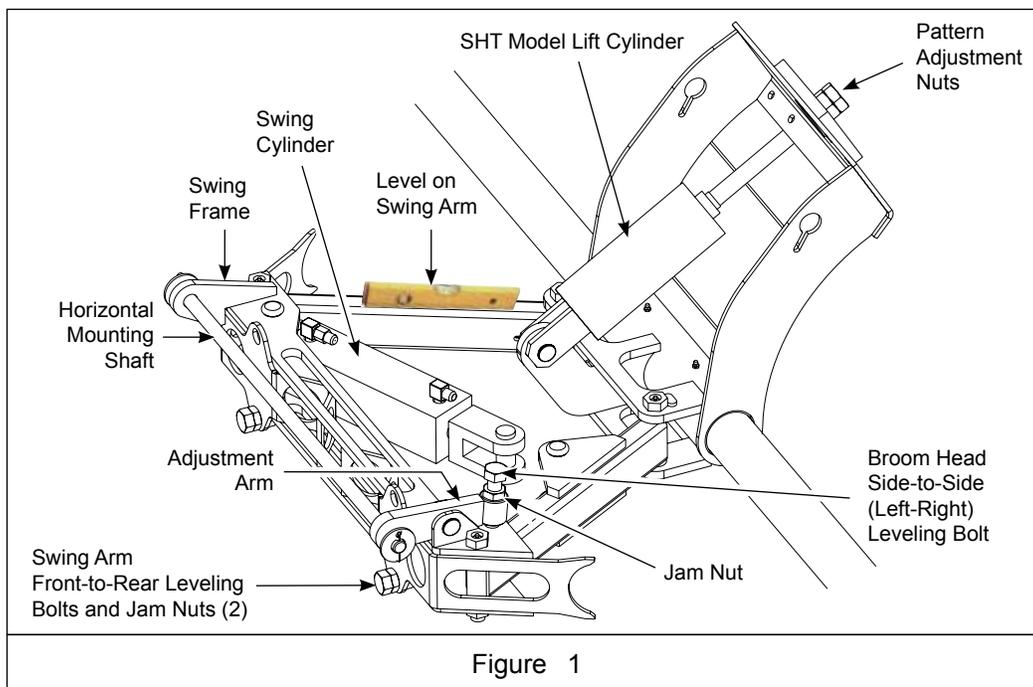
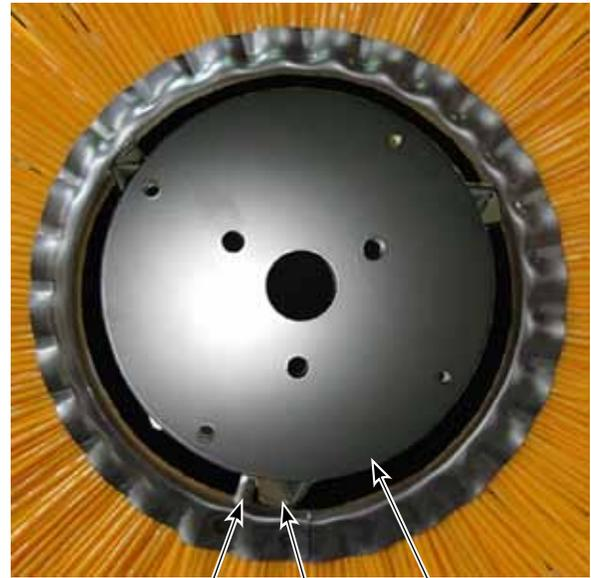

Figure 1
Figure 4
See Figure 1.
2. If mounted to a tractor (SHT), the frame is fixed and no movement is possible. See Figure 1.
5. Swing the broom so that it is horizontal and tighten the pattern adjustment nuts all the way down. See Figures 1 and 2.
- Adjust the swing arms so they are level front-to-rear by adjusting the bolts in or out on the back of the swing mounting frame. Adjust both bolts evenly to maintain an even load on the mounting frame and the arms. Check to see that the arms are level by placing a level along one of the arms. Once the arms are level, tighten the jam nuts against the swing frame to lock the bolts in place. See Figures 1 and 2.
- Adjust the broom head so it is level side-to-side by adjusting the bolt in the adjustment arm on the top of the swing mounting frame. Adjust the bolt in (down) to lower the left side, and adjust it out (up) to raise the left side. Check for level on the broom head by placing a level along the length of the hood. Once the broom head is level, tighten the jam nut against the adjustment arm to lock the bolt in place. See Figure 1.
- With the unit on a flat level surface, adjust the nuts on the end of the hydraulic lift cylinder (SHT) or actuator rod (SHL) so that the broom contact patch is approximately 3" wide from front to rear. Loosening the nuts will lower the broom, creating more contact. See Figures 1 and 2.
The level of the broom may create too heavy a brush pattern on either the left or right side. In order to balance the pattern, the Side-to-Side (Left-Right) Leveling Bolt in the Adjustment Arm (Figure 1) must be adjusted to compensate for the lean. See Figure 4.
**NOTE:** Brush surface contact during initial operation will set all wafer drive pins up against the core stop flanges. See Figure 4.